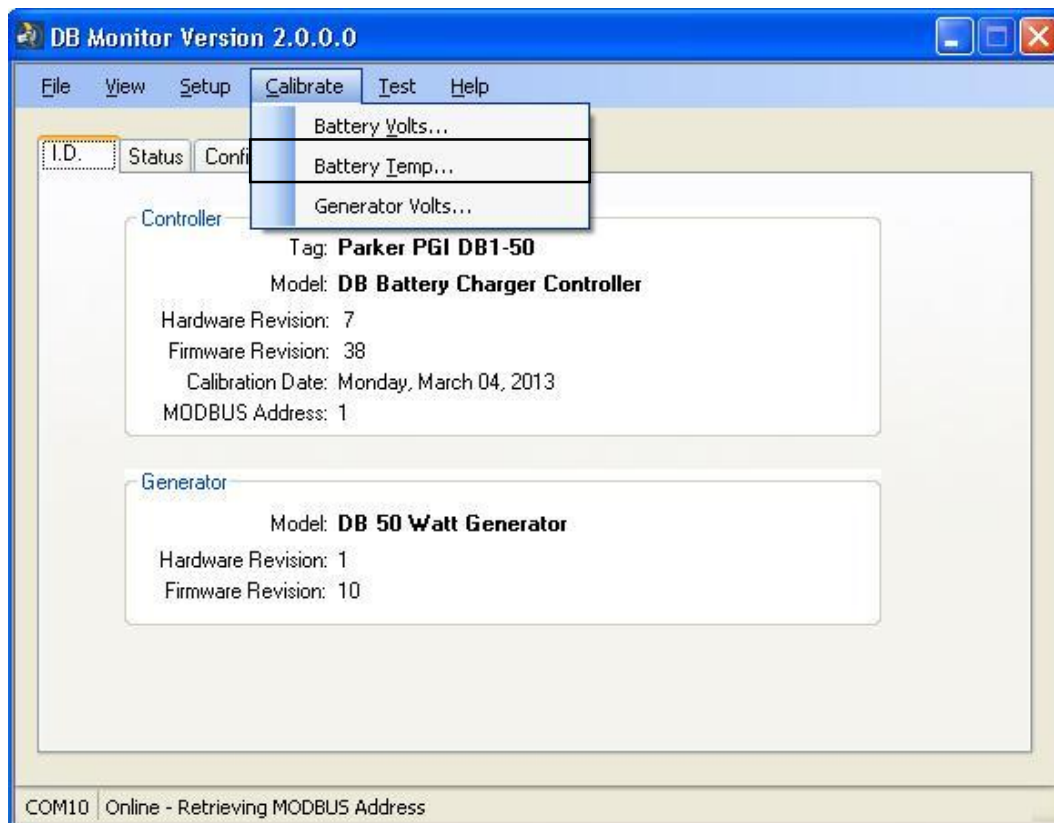

Figure 3-17. Select Battery Volts from Calibrate menu
8. From the menu bar, click **Calibrate > Battery Volts** (Figure 3-17 below).